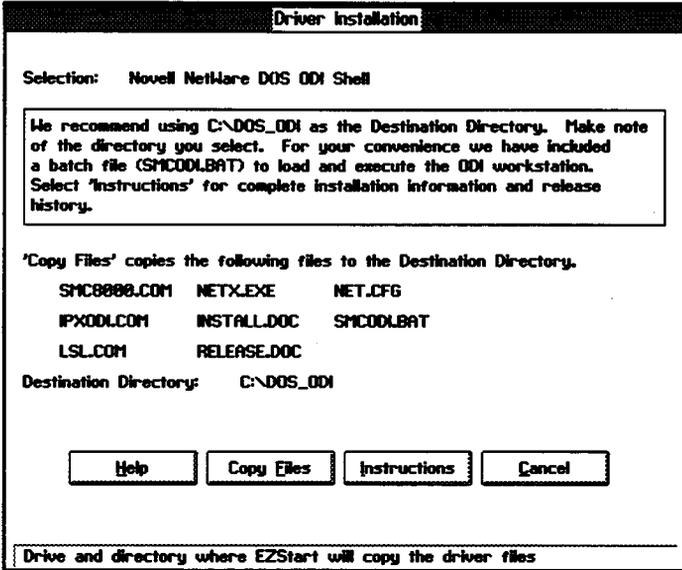

Figure 6-2. Sample Driver Installation Screen
3. Select OK. A Driver Installation screen for the selected driver appears. Figure 6-2 shows the Driver Installation screen for NetWare DOS ODI Shell.